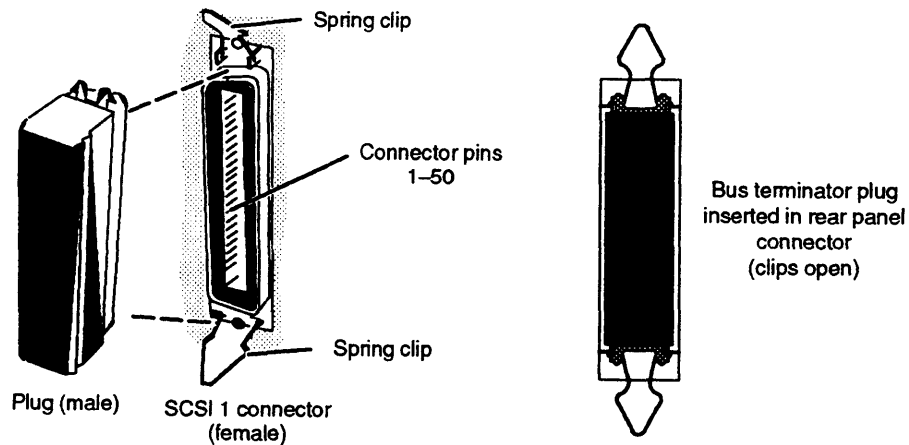

Figure 2-16 Installing the SCSI Bus Terminator Plug
- Align the connector pin numbers and the D-shaped connector bevels before gently inserting the plug in the SCSI connector, as shown in Figure 2-16.